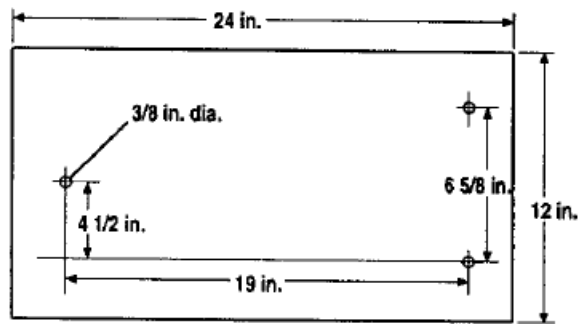

Fig. 6
See Figure 6.
- Mount saw to the board using holes in frame as a template for hole pattern or the diagram in Figure 6. Locate and mark the holes where the scroll saw is to be mounted.